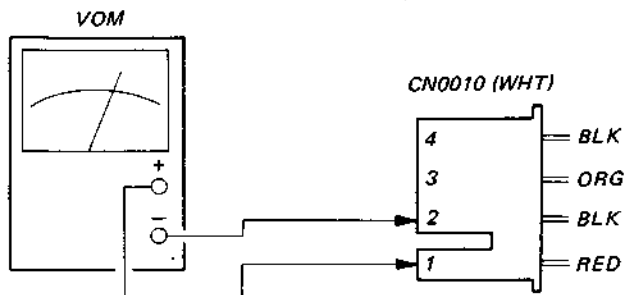

Fig. 1.
- 2) Connect the VOM at the point shown in Fig. 1.